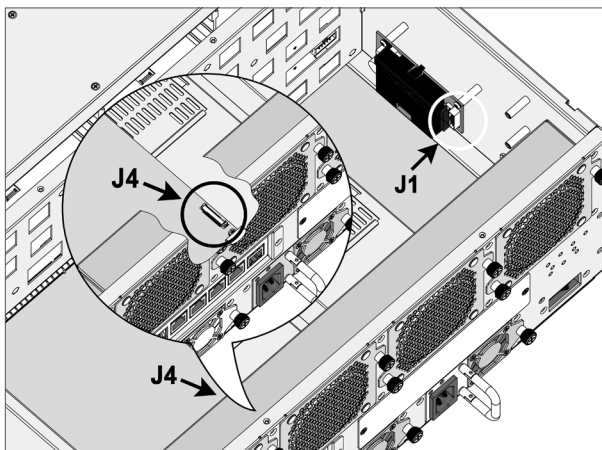

Figure B-10, Insert the cable connector into J1 & J4
3. Insert the cable connector into the **J1** (12-pin box header battery connector on ARC-6120-BAT-12G module), and also insert another side of the cable connector into the **J4** (14-pin box header battery connector on ARC-5088 backplane), as shown in Figure B-10.